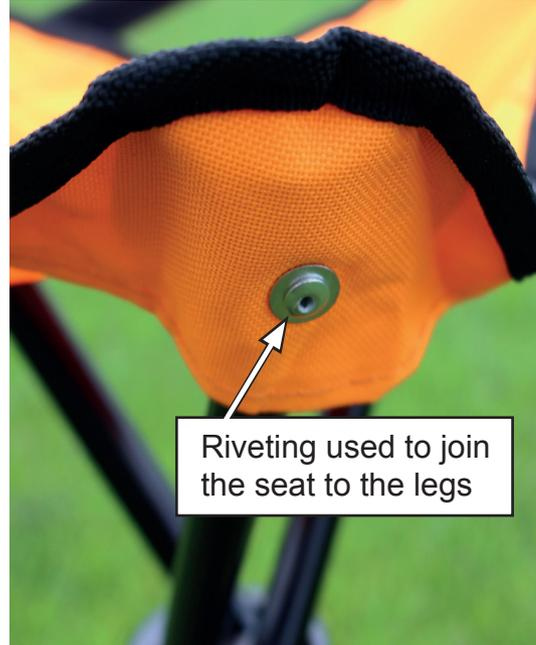

Fig. 8
13 Fig. 8 on the insert page shows photographs of a camping stool.
- (iii) Briefly outline **two** main criteria that would influence the selection of the material to be used for the legs of the camping stool as shown in **Fig. 8**. [2]
- (i) A suitable design that can be used for each of the three legs to enable the user to quickly extend the length of each leg. X-X on **Fig. 8** shows the position where your design should provide extension. [4]